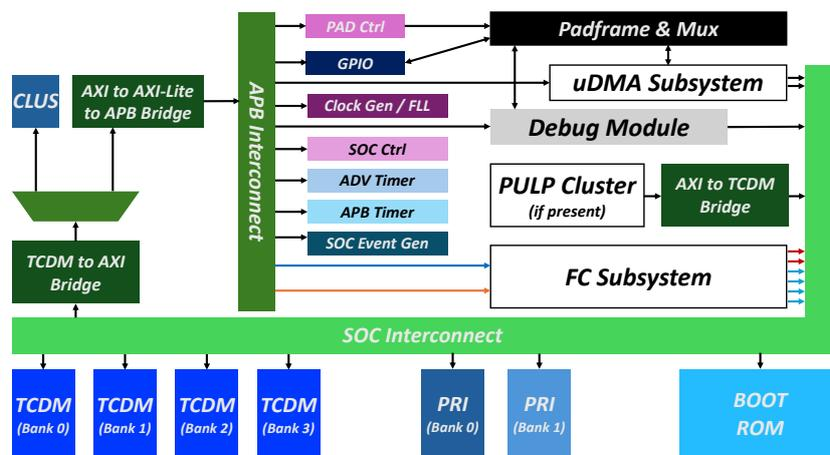

Figure 8: Block-level schematic of the PULPissimo SoC
**PULPissimo SoC architecture:** For some help in tracing the elements, Figure 8 contains high-level overview and introduction into the PULPissimo System-on-Chip (SoC) architecture within the `pulp_soc` dependency. The SoC part connects the Fabric Controller (FC) subsystem to a variety of memory banks and peripherals through the SoC interconnect. Feel free to explore these elements in the code and in Student Task 4.